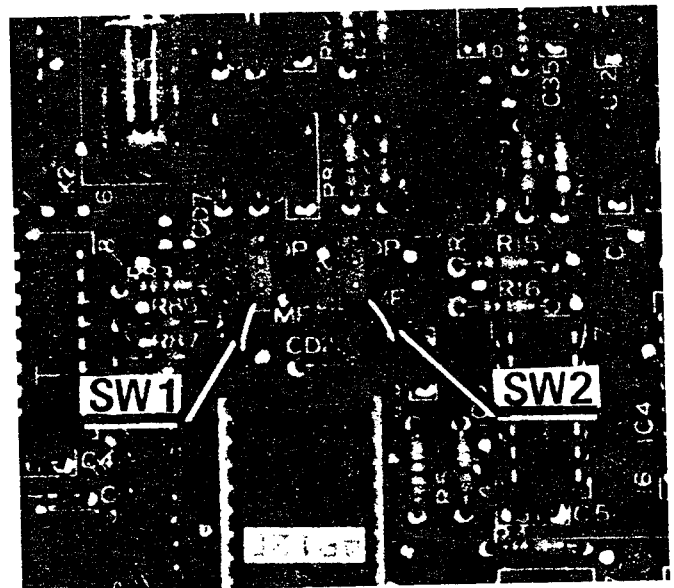

FIGURE 19—MOPU CONNECTING STRAPS
07.32 Choose the appropriate type of MOPU PCB (MF/DP or DP). If MF/DP, make sure the SW1 and SW2 strapping plugs (Figure 19) are in the correct strapping position to match the type of telephones being used. Position each plug so that the center pin is strapped to the pin marked either MF or DP. See Section 100-020-300, *System Programming*, for further information.